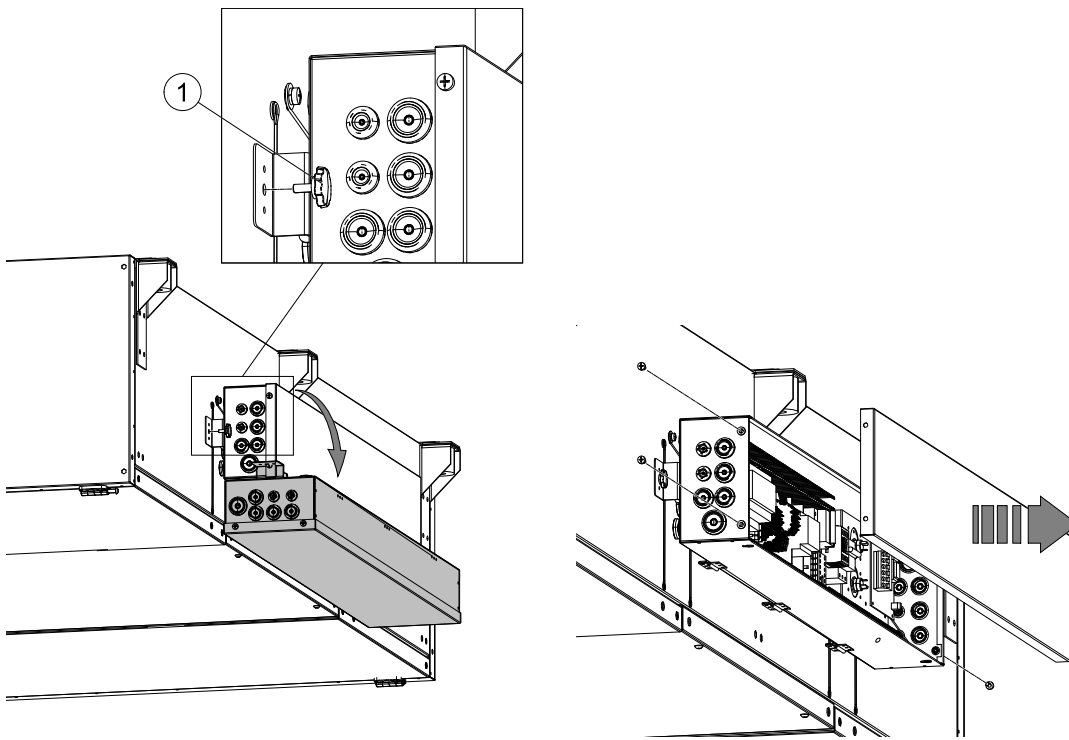

Fig. 9
All electrical connections are made in the electrical connection box which can be found on the long side of the unit. For easy access the electrical box can be folded down by loosening the grip screw (figure 9, pos 1). The hatch is removed by unscrewing four screws (figure 9).